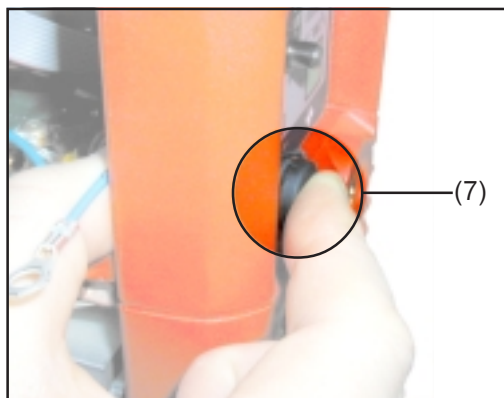

Fig.14
- TP 1500 RC / 1500 TIG: Apply gentle pressure to the seal of the remote-control socket (7), to prevent it being forced out when you press on the FPA15 board (Fig.14)